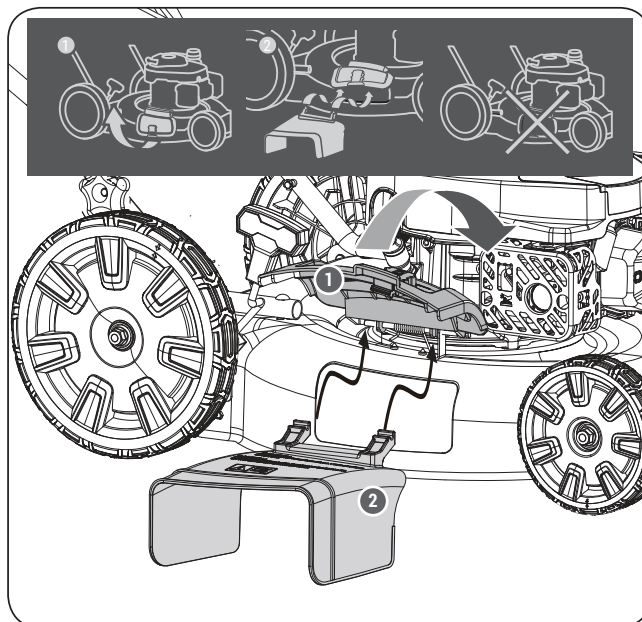

Figure 7
1. Lift the mulch cover on the side of the mower. (See **Figure 7, illustration 1**)
2. Slide the two hooks of the side discharge cover under hinge pin on mulch cover assembly. Lower the mulch cover. (See **Figure 7, illustration 2**)